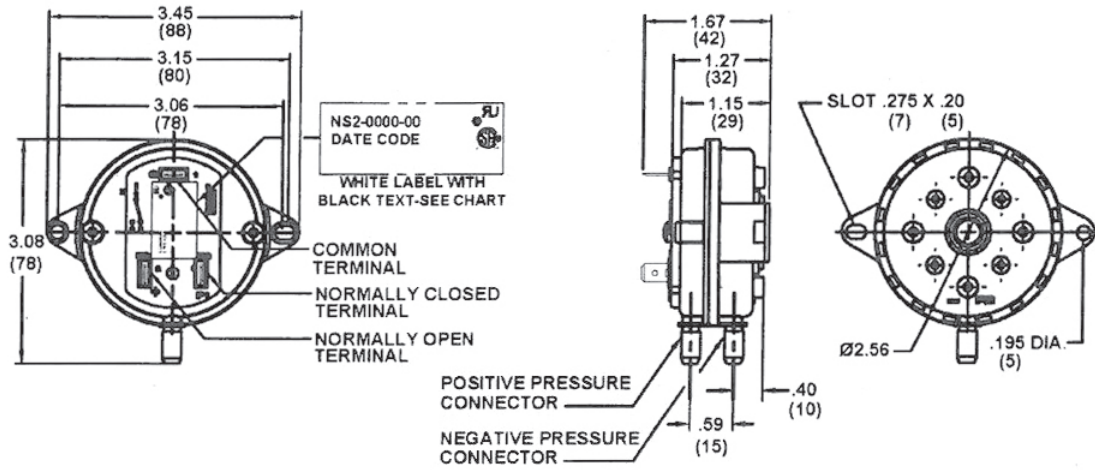
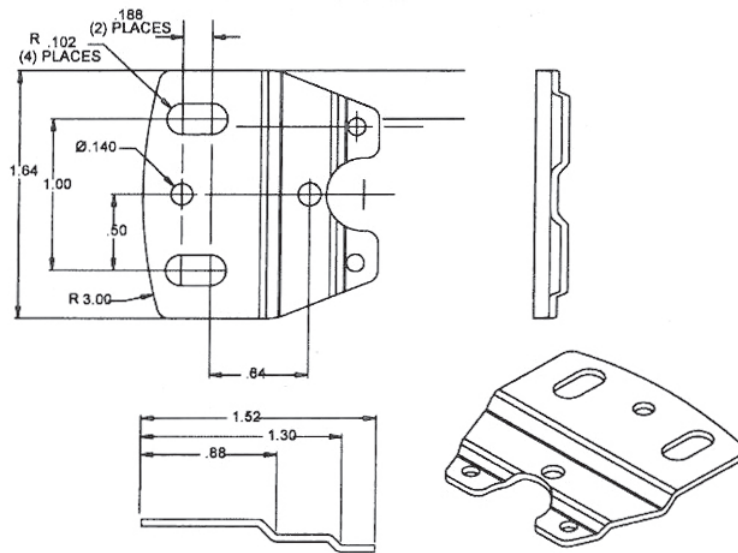

Figure 1: Dimensions NS2 Switch with integral connectors and mounting feet
Figure 4: Half Strap Bracket
Using the (2) #6 x $\frac{3}{8}$ " mounting screws included in the kit, mount via the integral foot bracket (see Fig. 1) or via either of the optional brackets (see Figs 4 & 5) included in the kit. If using one of the optional brackets, attach it to the switch with the self-tapping screw provided before mounting the switch. Select a mounting location free from vibration. Mount with the diaphragm in any vertical plane. Avoid mounting with the sample line connections directed upward.